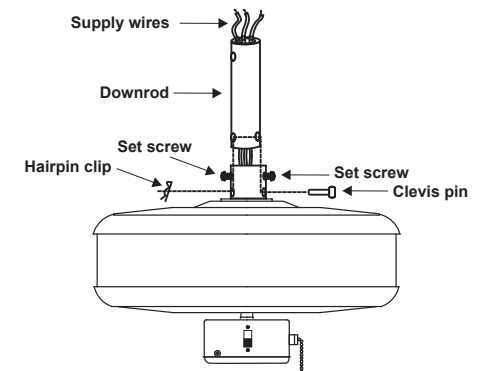

Figure 7
Step 4. Loosen the two set screws and remove the clevis pin and hairpin clip from the top coupling of the motor assembly. (Fig. 7)
Step 5. Carefully feed the fan wires up through the downrod. Thread the downrod into the coupling until the clevis pin holes are aligned. Next, replace the hairpin clip and clevis pin then tighten the set screws. (Fig. 7)